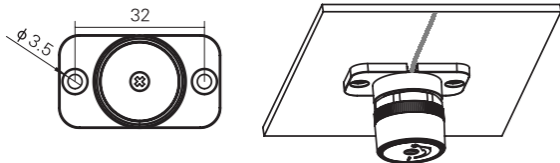

Fig. 3
- For surface mounting, leave the locking and the mounting bracket in place, and fix to a suitable surface. The cable can be fed from the rear or the side (see Fig 3)